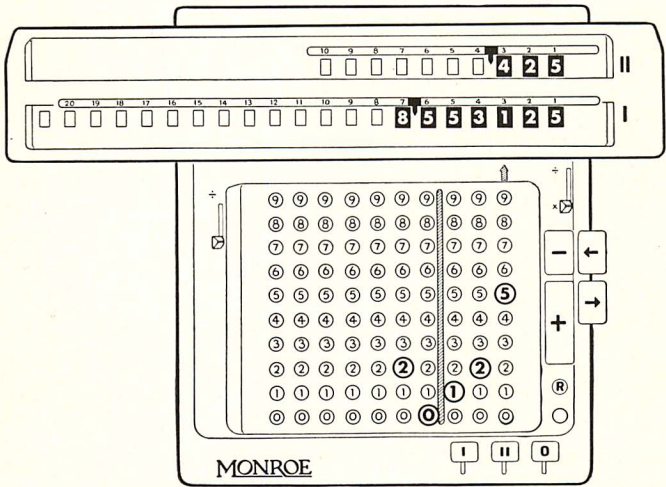

Figure 9
*Step 3*—The result in the lower dials will be 8.553125, correctly pointed off (Figure 9). If the result is dollars and cents it is copied from the lower dials as \$8.55, ignoring the terminal digits 3125. If these digits were 5125 instead of 3125 the half-cent would be picked up and the amount would be \$8.56 instead of \$8.55.